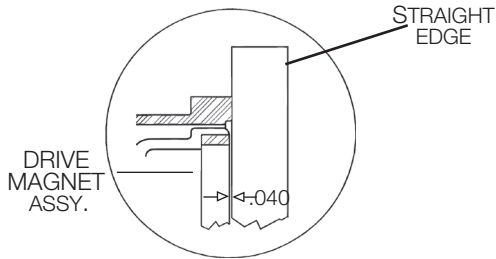
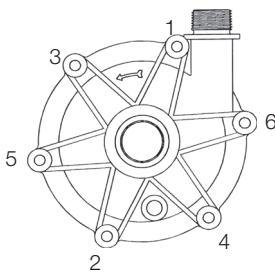

Figure 2
Figure 3
2. Remove screws and washers (items 9A, 9B & 9C) from impeller housing (item 1) and remove pump assembly from motor adapter (item 5).
4. Install the motor adapter (item 5) onto the motor with the access holes top and bottom. Secure with supplied hardware (items 10A, 10B, and 10C). On 63 frame pumps, from the motor side, insert the supplied gray spacer into the base of the motor adapter and secure both to the motor.
5. For 63 frame pumps - Screw the cone point drive magnet assembly setscrew (item 6B) in so that it protrudes slightly into the drive bore. Align the protruding setscrew point
with the key slot on the shaft adapter and slide the drive magnet assembly (item 6) on. Adjust the drive magnet assembly (item 6) so that it is 1.016 mm (.040 +/- .005) below the face of the motor adapter (see figure 2) and tighten both setscrews with a 5/32" Allen wrench to 7.9 N.m (70 in. lbs.).
For 71 and 80 frame - Align the cone point set screw (item 6B) on the motor shaft and slide the drive magnet assembly (item 6) onto the motor shaft. Adjust the drive so that it is 1.016 mm (.040 + or -.005) below the face of the motor adapter (see figure 2). Tighten both setscrews with a 5/32" Allen wrench to 7.9 N-m (70 in-lbs.).
6. Place the impeller assembly (comprised of items 2 and 3) in barrier (item 4). Grasping the barrier at opposite bolt tabs, carefully lower the barrier assembly into the motor adapter/drive assembly. Line up the tabs of the barrier between the tabs on the motor adapter to avoid pinching fingers. Once seated, rotate the barrier until bolt holes line up.
7. Install the o-ring (item 7) on the barrier. Lubricate the o-ring with a compatible lubricant to facilitate installation.
8. Place the impeller housing (item 1) on the barrier being careful not to dislodge the o-ring.
9. Align mounting holes and install 6 mounting screws and washers (items 9A, 9B & 9C) from hardware package. Hand-tighten screws using pattern shown in Figure 3.
1. 56C pumps - Insert the barrier (item 4) into the motor adapter (item 5). Align the barrier tabs with the motor adapter bolt holes and press/pop into place. Install the impeller assembly (items 2 and 3) into the barrier. Lubricate the housing o-ring (item 7) with a chemically compatible lubricant and install. Carefully place the impeller housing (item 1) onto the barrier, lining up the discharge with a set screw access hole (top) in the motor adapter. Be careful not to dislodge the o-ring. Install the six bolts and washers (items 9A, 9B, and 9C) and hand tighten the screws following the pattern shown in figure 3.